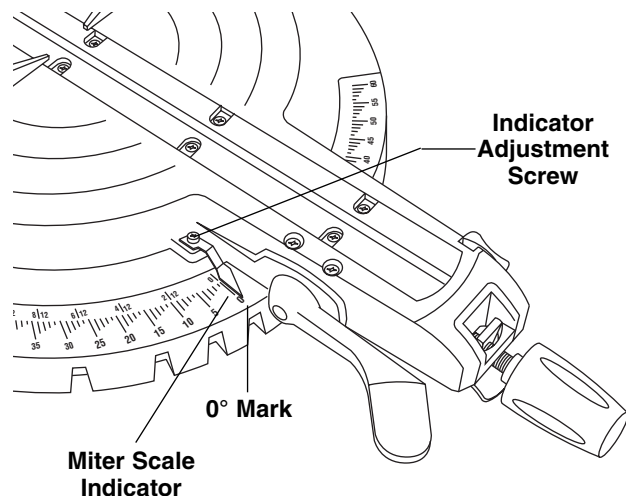

Figure 11. Miter Scale Adjustment
3. Loosen the Phillips screw that holds the indicator in place (Figure 11).